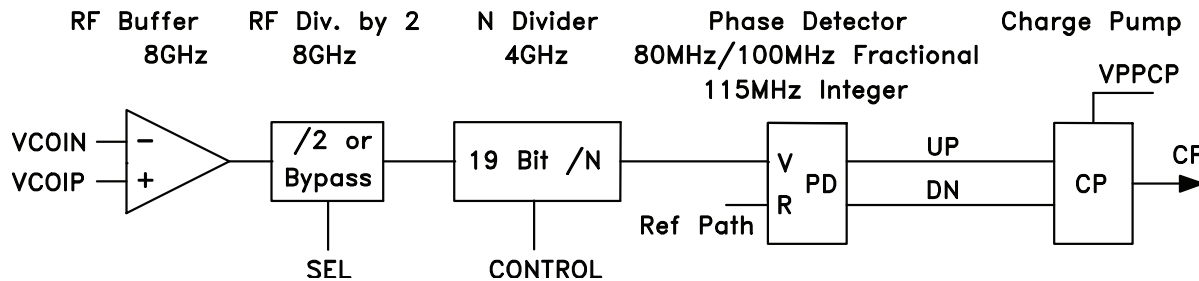

Figure 11. RF Path
The RF path is shown in Figure 11. This path features a low noise 8 GHz RF input buffer followed by an 8 GHz RF divide-by-2 with a selectable bypass. If the VCO input is below 4 GHz the RF divide-by-2 should be by-passed for improved performance in fractional mode. The RF divide-by-2 is followed by the N divider, a 16 bit divider that can operate in either integer or fractional mode with up to 4 GHz inputs. Finally the N divider is followed by the Phase Detector (PD), which has two inputs, the RF path from the VCO (V) and the reference path (R) from the crystal. The PD can operate at speeds up to 100 MHz in fractional Mode B (recommended), 80 MHz in fractional Mode A and 115 MHz in integer mode.